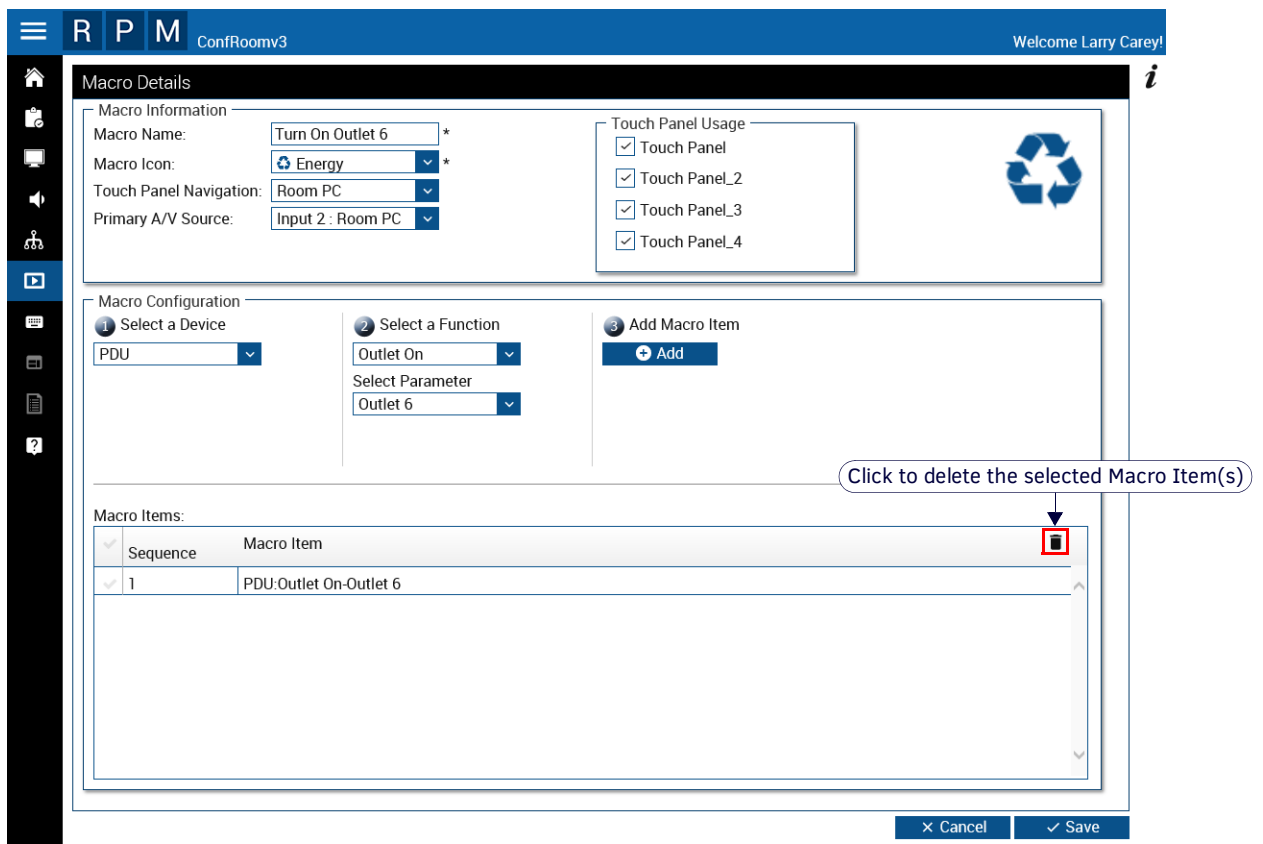

FIG. 65 Macro Details page - new Macro Item added to Macro Items list
- c. Under *Add Macro Item*, click **Add** to add the macro item (Device and Device Function) to the *Macro Items* list (FIG. 65):
- Select an item in the *Macro Items* list (see FIG. 65).